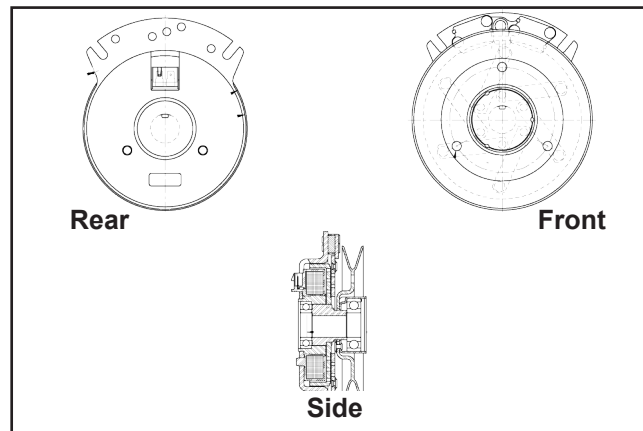

Figure 22
4. Connect the meter lead wires to the wire in the clutch connector (Figure 22).